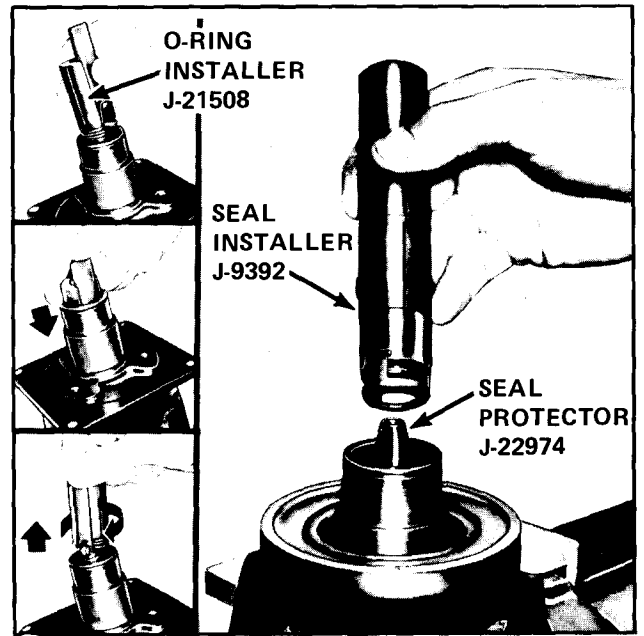

Figure 59—Replacing Seal and O-Ring
5. With Seal Protector J-22974 still over the end of the shaft, engage the tabs on the seal assembly with the tangs on Seal Installer J-9392 by twisting the tool clockwise, while pressing the tool down. Then lift the seal assembly out (See figure 59).
1. Coat new seal seat O-ring with clean 525 viscosity refrigerant oil and install in compressor neck, making certain it is installed in bottom groove (figures 59 and 60). Top groove is for retainer ring. Use O-Ring Installer J-21508.
2. Coat the O-ring and seal face of the new seal assembly with clean 525 viscosity refrigerant oil. Carefully mount the seal assembly to Seal Installer J-9392 by engaging the tabs of the seal with the tangs of the tool (figure 59).
3. Place Seal Protector J-22974 (figure 59) over end of shaft and carefully slide the new seal assembly onto the shaft. Gently twist the tool **CLOCKWISE**, while pushing the seal assembly down the shaft until the seal assembly engages the flats on the shaft and is seated in place. Disengage the tool by pressing downward and twisting tool counterclockwise.